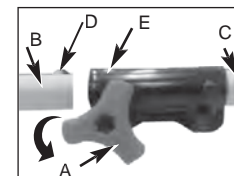

Fig. 2A
- Turn the knob (A) counterclockwise to loosen (Fig. 2A).